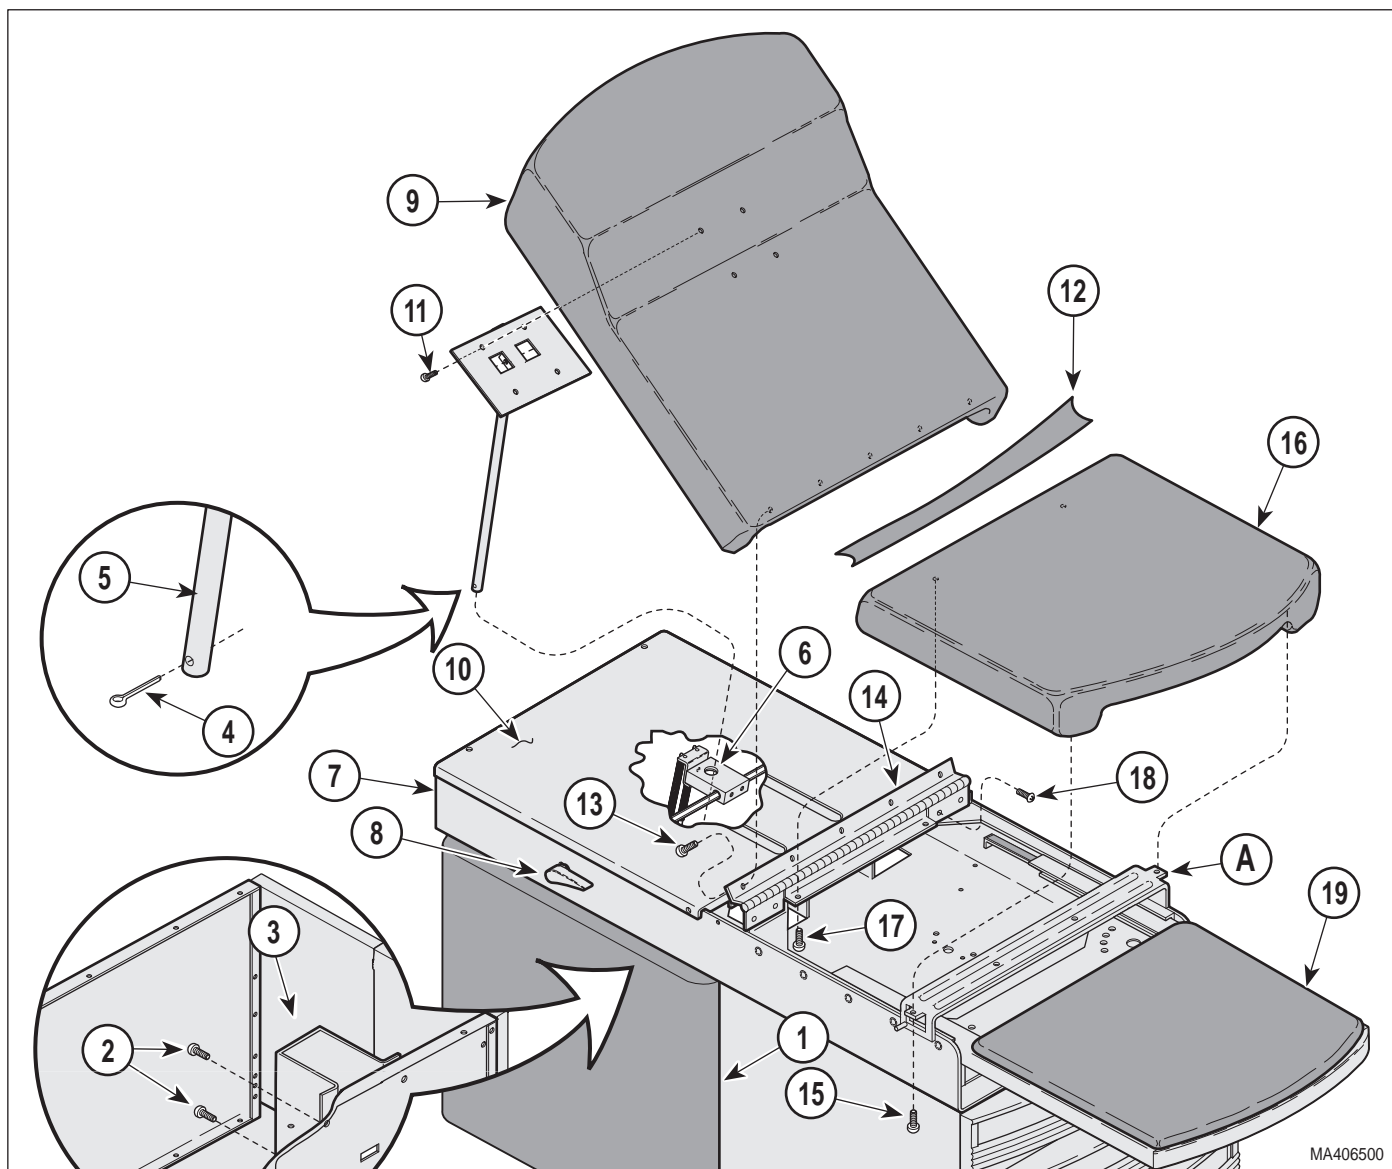

Figure 4-2. Upholstery Removal / Installation
- (1) Unplug the table power cord from the wall outlet.
- (2) Open the doors (1, Figure 4-2) and remove the four screws (2) that hold the rod upper cover (3) in place and remove the cover.
- (3) Remove the cotter pin (4) from the back support rod (5).
For ease of installation it works best to remove the hinge assembly (14, Figure 4-2), lay the head (9) and seat (16) sections in position on a flat surface with the lower or back sides facing upward, and install the hinge cover (12) and top hinge (14). Once this has been completed install the entire upholstered assembly onto the table.
- (1) Lay the new head board (9, Figure 4-2) and seat section (16) in position on a flat surface with the face (upholstery side) down.